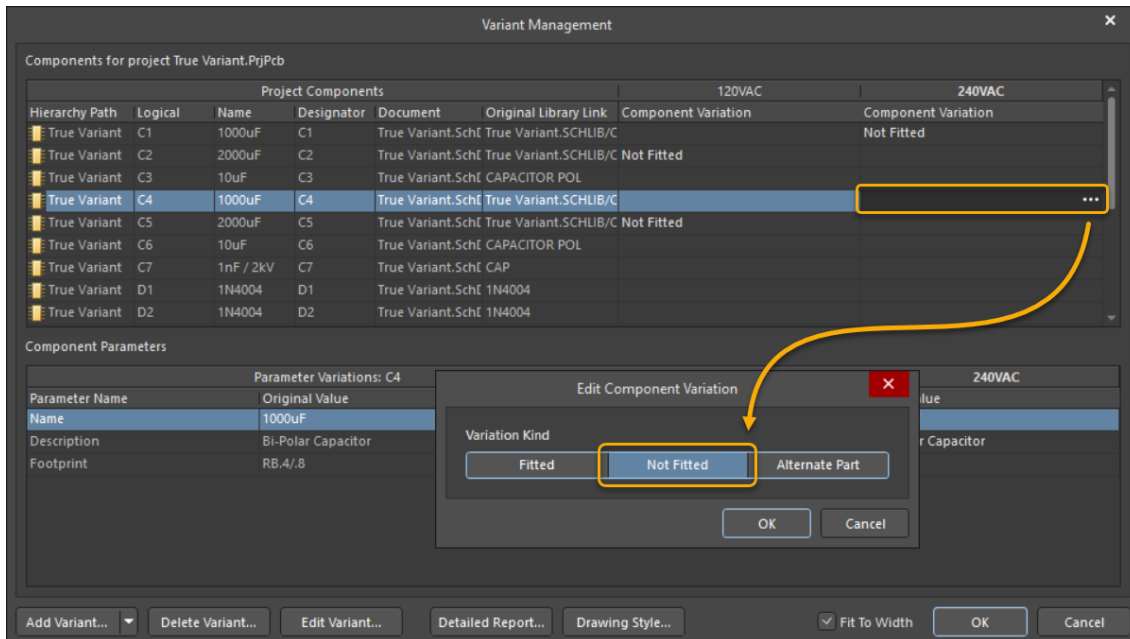

Figure 4. Setting up fitted and not fitted parts
7. We will set both C2 and C5 to **Not Fitted** for the 120VAC column. To do this, click on the *Component Variation* cell for variant 120VAC. You can use Figure 4 as a reference.